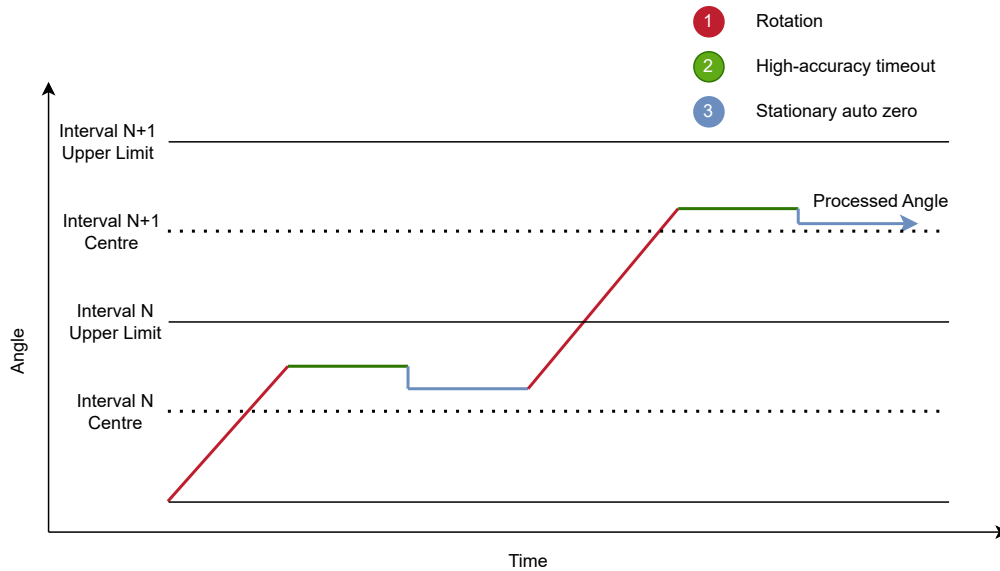

Figure 4.8: Stationary Auto-zero Behaviour
- > **Stationary:** An auto-zero event will occur when the High-Accuracy timeout event occurs. A single adjustment is made to the absolute angle offset each time the device exits High-Accuracy mode. The Auto-Zero Beta parameter defines the size of the adjustment, with an auto-zero beta value of 0 resulting in a jump to the exact centre of the interval. This behaviour can be seen in Figure 4.8.